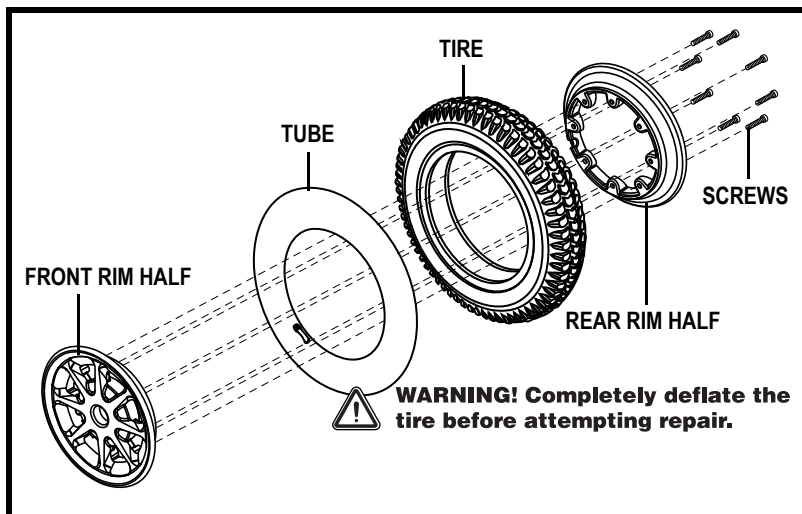

Figure 21. Jazzy 1170XL Plus Series Drive Wheel Disassembled
6. Remove the screws that fasten the two rim halves together. See figure 21.